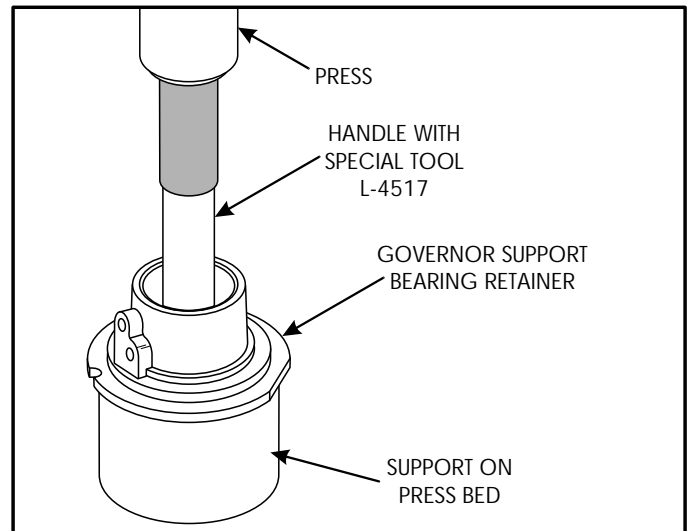

Figure 193
9. Remove bearing cup from governor support bearing retainer using special tool L-4517 and press, as shown in Figure 193.